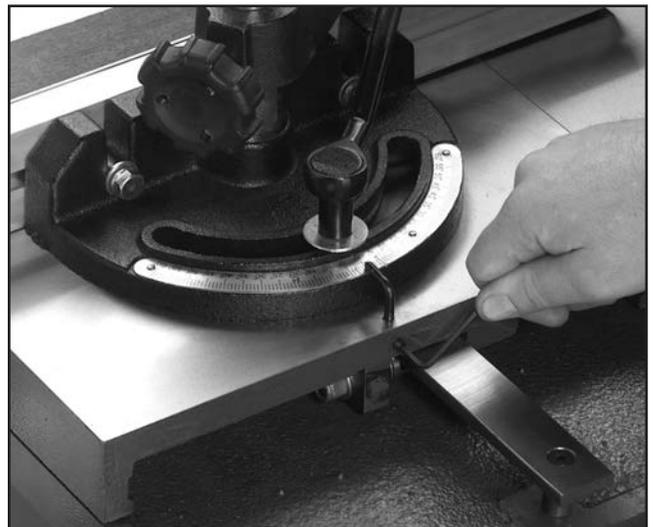

Figure 29. Setting the miter gauge pointer.
4. Set the miter gauge pointer to 0° and tighten the setscrew as shown in **Figure 29.**